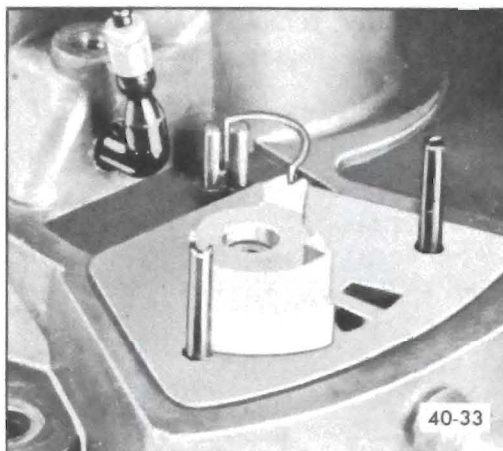

Figure 40-38 - Positioning Distributor Valve
4. Position distributor valve so that short foot of tension spring fits under valve and vertical leg is in slot. See Figure 40-38.